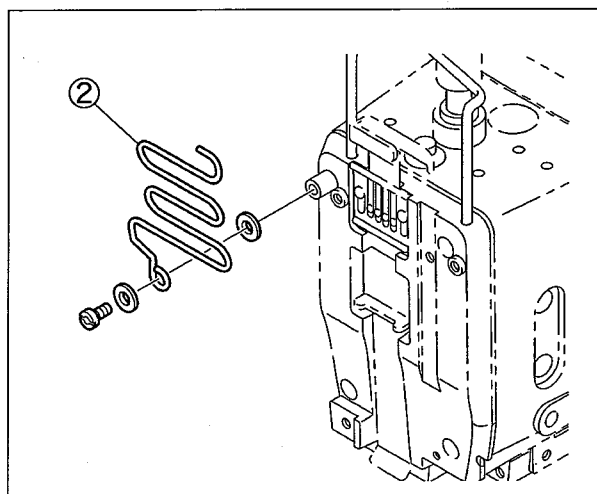

Fig. 2
Install the tape guide (upper)② onto the head cover by referring to Fig. 2.